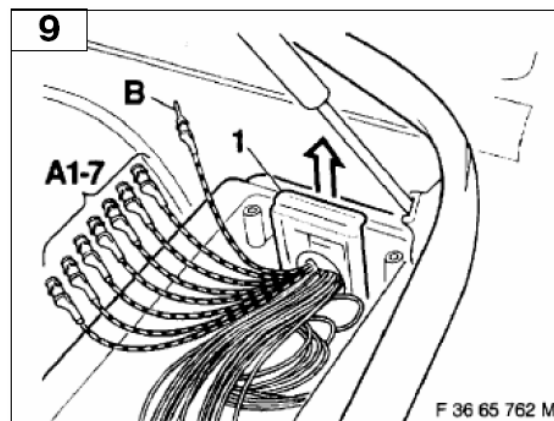

Figure 10 – Removing Fuse box-to-Firewall Panel (Item 1)
- 5.9.8 Once you remove all the bolts you can slide the fuse box toward the front of car just enough to loosen the fuse box-to-firewall panel (Figure 10). Note that the panel has a tie wrap that is tied to the wire bundle. When you pull up on the panel, the entire bundle lifts up. Use caution b/c I broke my panel trying to pry it up and not knowing about the tie wrap. I recommend pulling up on the bundle or clipping tie wrap before pulling on panel. With the panel removed, you can easily pass the wiring harness through the firewall.